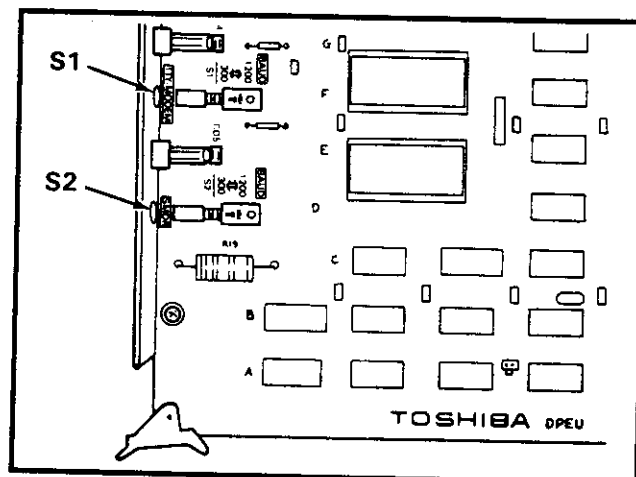

FIGURE 51—FPEU/DPEU SWITCHES
13.65 The SMDR output speed can be set for either 300 bps or 1200 bps by pressing the SMDR switch on the front panel of the DPEU PCB (Figure 51). If the speed is set at 1200 bps, then the LED that is associated with the speed select switch, will light.